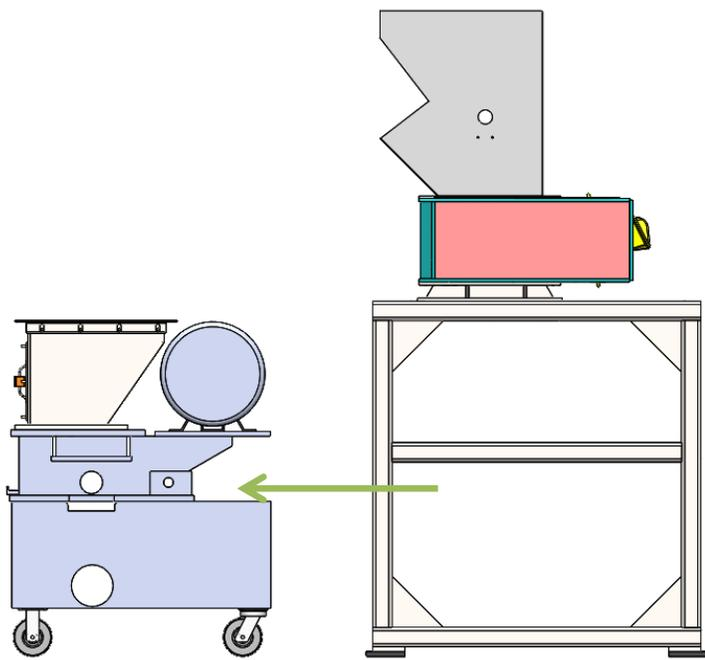

Figure 3
- 4).** Once the bolts are loosened and the mid-hopper sleeve is lowered, you can then pull the main cutting chamber away from the support frame. (See figure 3 on following page).